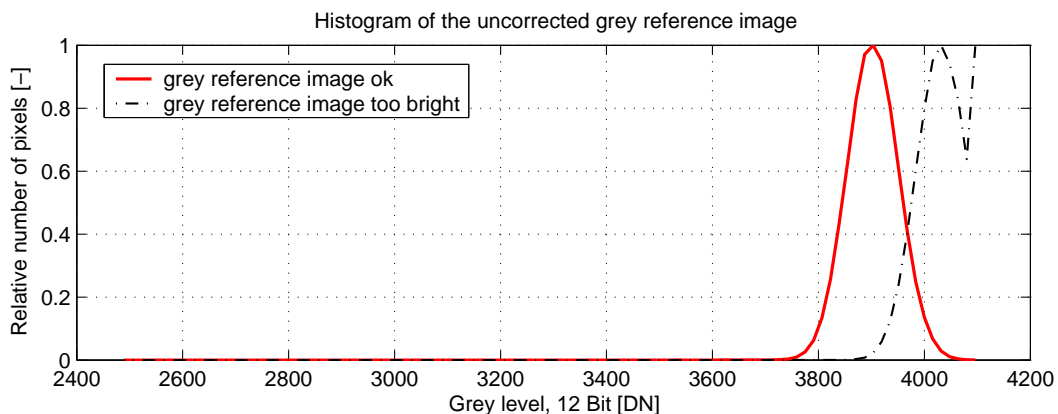

Figure 4.31: Proper grey reference image for gain correction
- When looking at the histogram of the grey reference image, ideally there are no grey levels at full scale (4095 DN @ 12 bit). All pixels that are saturated white will not be properly corrected (see Fig. 4.31).